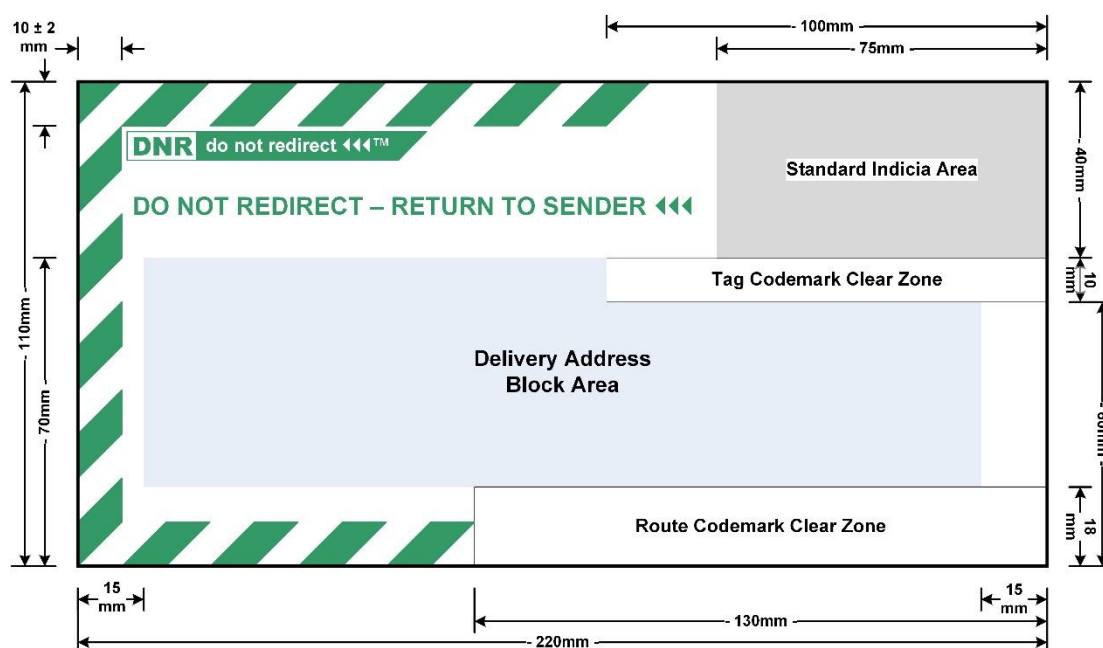
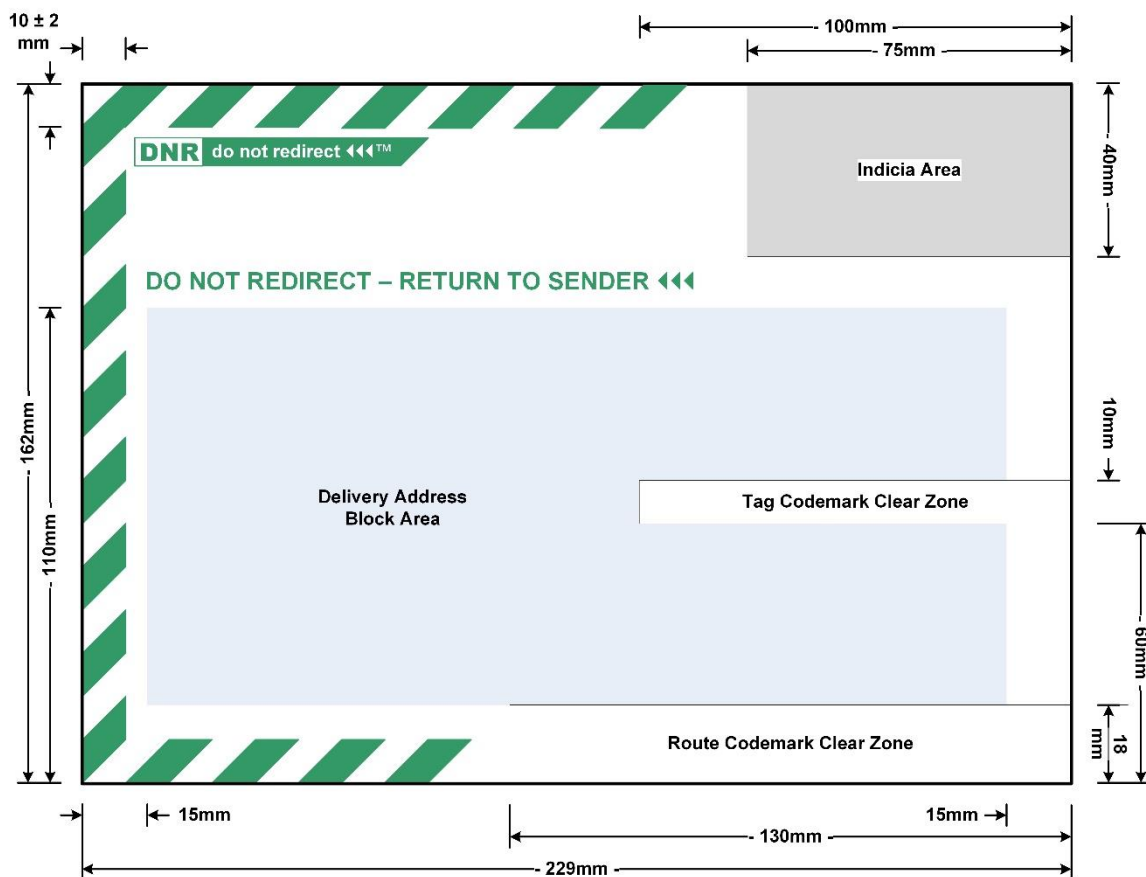
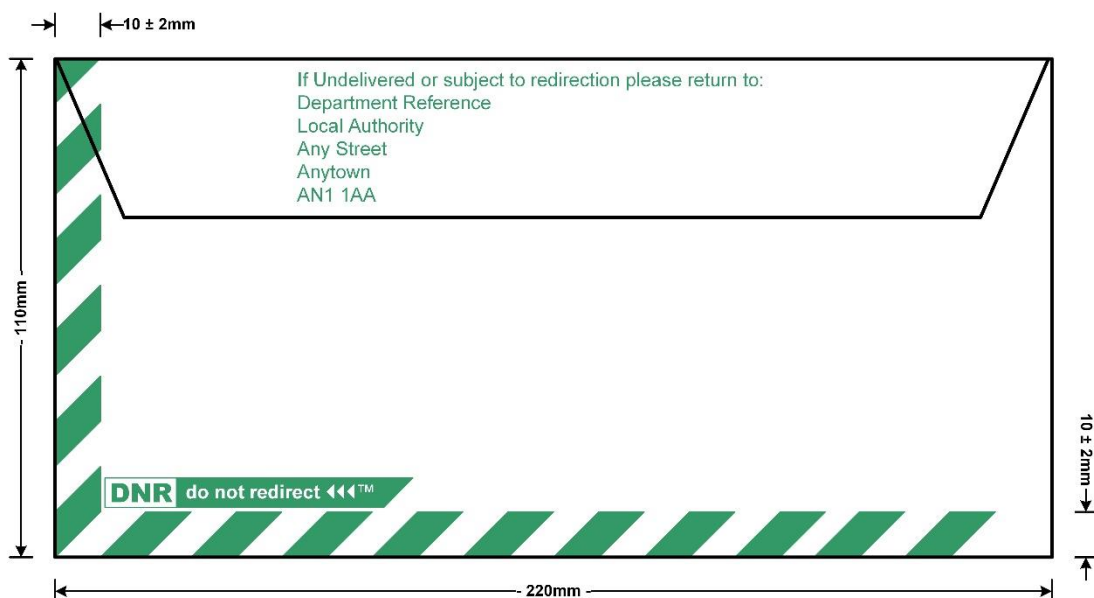
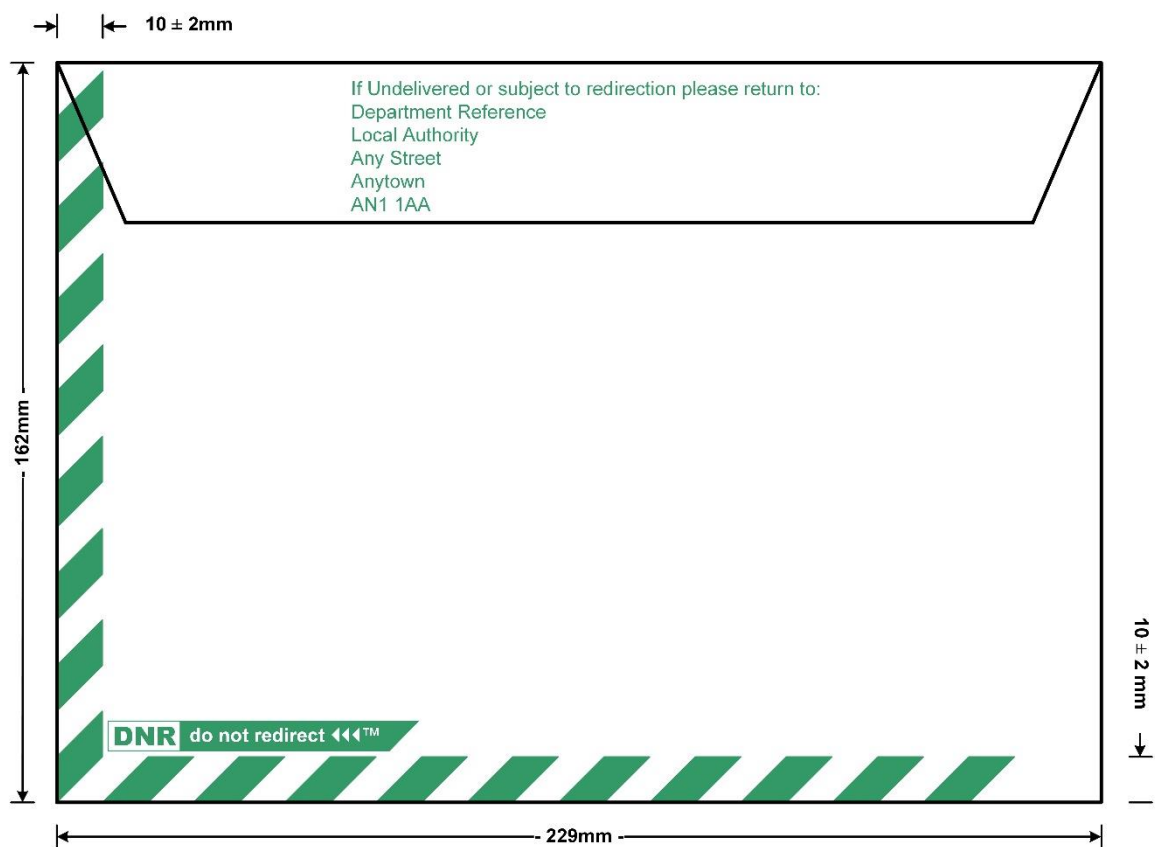

Figure 61 – DNR – DSA DL Letter front (not to scale)
Figure 62 – DNR – DSA C5 Letter front (not to scale)
Figure 63 – DNR – DL Letter back (not to scale)
Figure 64 – DNR – C5 Letter back (not to scale)
Prefix	'If undelivered or subject to Redirection, please return to:' See Figure 63 and Figure 64.
3.1 Specific attributes for Do Not Redirect include Chevrons, a trademark and text. These are defined in the following table and illustrated in Figure 61 to Figure 64.
Front Location	<ul style="list-style-type: none"> <li>DL Envelope - The mark must be in the top left corner and inset by 1mm from the top and left chevrons (see Figure 61).</li> <li>C5 Envelope - The mark must be in the top left corner and inset by 1mm from the bottom and left chevrons (see Figure 62).</li> </ul>
Back Location	The mark must be in the bottom left corner and inset by 1mm from the bottom and left chevrons (See Figure 63 & Figure 64)
Location	The text must be located beneath the DNR Mark, above the Delivery Address block and left justified as illustrated Figure 60 & Figure 61.